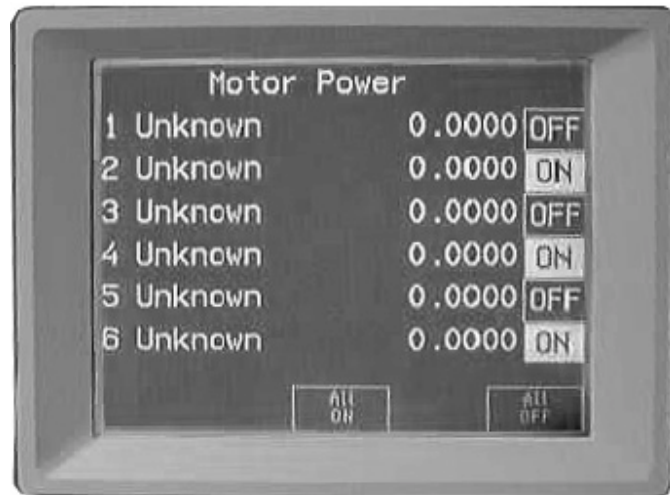

Figure 1.15: Motor Power Screen
When the user selects the **MOTOR POWER** button from the **TOP MENU** screen, the **MOTOR POWER** screen displays, and gives the user a choice of selecting individual or ALL axes. (See Example in **Figure 1.15**).
2. If the user selects a particular axis, the ESP7000 will indicate **ON** for each axis selected (See **Figure 1.15**).